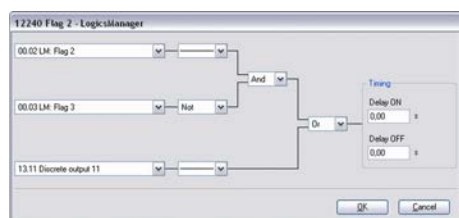

Fig. 196: LogicsManager function "Flag 2"
3. Configure the LogicsManager function "Flag 2" as shown in (Fig. 196).